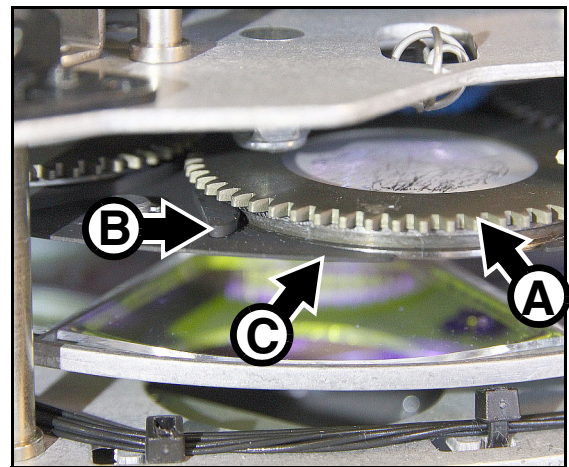

Figure 16: Gobo removal
6. See Figure 16. Grasp the goboholder **A** by its edge and pull it out of its clip **B**, ensuring that it clears the surrounding plate **C** in the gobo wheel to remove it from the wheel. You may need to press gently down on the plate **C** while you pull the gobo free.